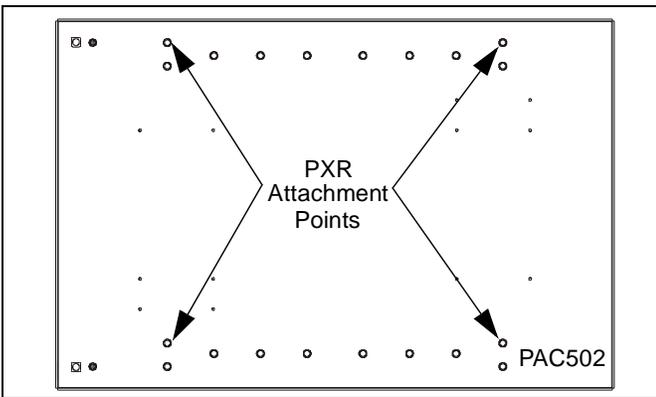

Figure 14
1. Align mounting holes at top of PXR with two mounting holes in PAC502. (See Figure 14)